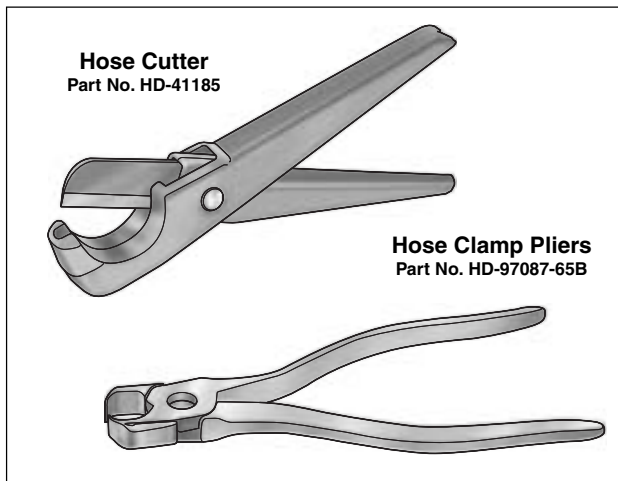

Figure 4-18. Hose Cutter/Hose Clamp Pliers
- Inspect crossover hose for cuts, cracks, nicks or other damage. Be sure aging has not caused the hose to become hard and brittle. If replacing from bulk storage, use SAE R9 or equivalent fuel hose only. Remove old hose and cut new hose to same length using HOSE CUTTER (HD-41185). See Figure 4-18.
- Slide **new** clamp onto free end of crossover hose. Running hose beneath frame backbone, install hose onto fitting at bottom front of fuel tank. Crimp clamp using HOSE CLAMP PLIERS (HD-97087-65B). See Figure 4-18.